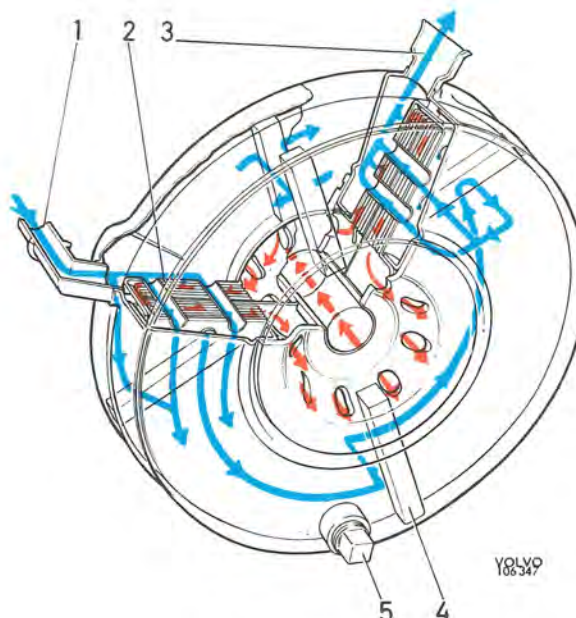

Fig. 2-48. Oil cooler
The oil cooler (Fig. 2-48) is fitted between the oil filter and the cylinder block and consists of an inner section for the oil which is surrounded by a cooling jacket. The engine coolant is led through the cooling jacket. On its way to the oil filter, the oil passes through the cooler and some of the heat in the oil is conducted away by the coolant. The coolant cannot pass the shortest way from the inlet (1) to the outlet (3) but is forced to go zig-zag and round the cooler as shown by the blue arrows in the Fig. (2-48). A number of rubber seals (4) force the fluid to go in this direction.
Together with the element and relief valve, the oil filter (see Fig. 2-48) is screwed as a complete unit onto a nipple fitted in the cylinder block.